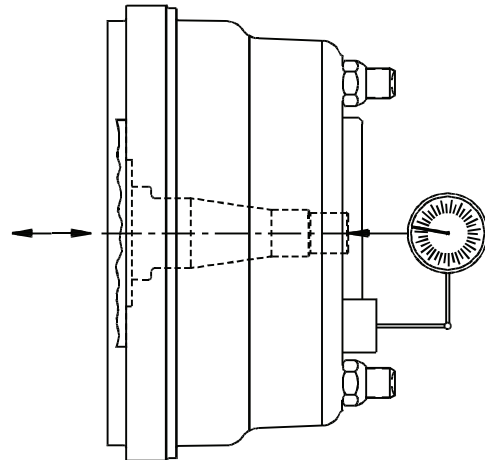

Figure 21 - Wheel End Play Measurement
2. Place the tip of the dial indicator on the center of the steering knuckle spindle. Set the dial indicator on zero. (See Figure 21).
3. Measure the end play by simultaneously pushing/pulling on each side of the tire, drum, or hub while observing the dial indicator. The end play is the total travel observed. If the end play is not within .001-.004 inch adjust the wheel bearings per steps 4-16. (See Figure 21). Otherwise skip to step 17.